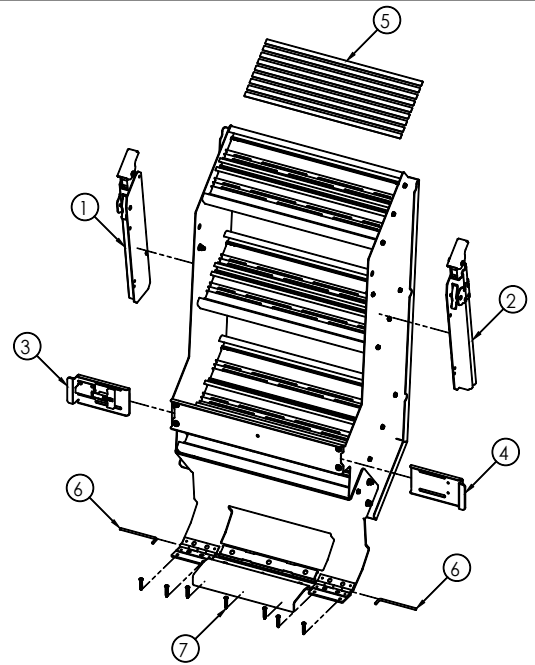
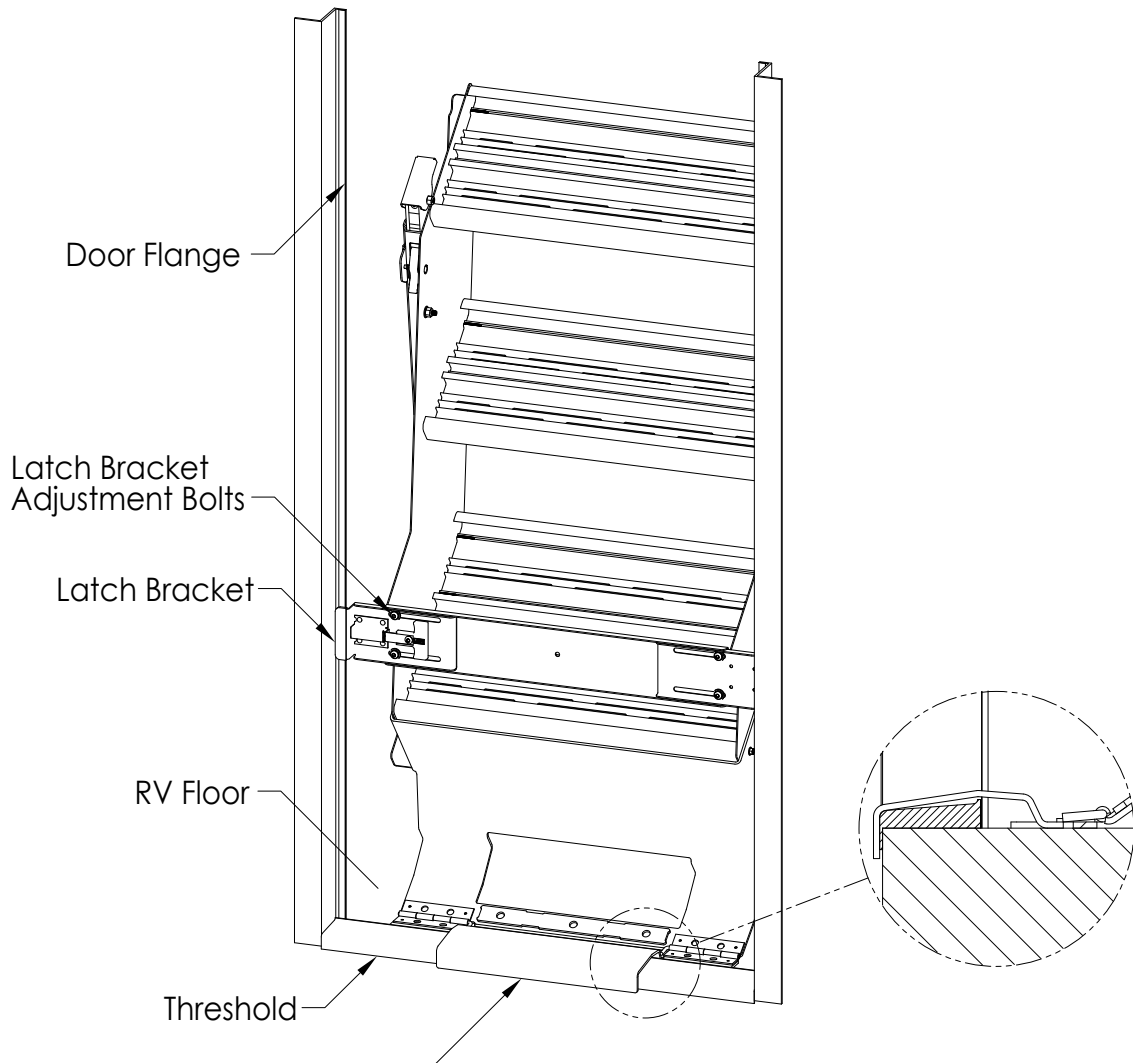

Figure 1
Figure 2
2. Open RV entry door fully and set the stair assembly in the RV threshold as shown in **Figure 1**.
5. The following steps involve installation of floor mounting screws to secure product to floor. Eight (8) #10x3/4 pan head or truss head screws must be used. Ensure screw head diameter of 5/16" or larger is used. Washers may also be used.
6. Install one (1) screw through floor mounting brackets slotted holes, centered as shown in **Figure 2**, (screw position A). Installation of screws into slotted holes first allows for fine adjustment of staircase within the door width. It is recommended to drill a pilot hole using a 1/8" drill bit for all floor screws.
7. Ensure stairs are centered within doorway before installing remaining screws in the floor mounting bracket. Once satisfied with position, install remaining screws in the floor mounting bracket as shown in **Figure 2**, (screw position B). Do not overtighten screws.
Adjust brackets by loosening bolts shown in **Figure 1**, sliding brackets in or out as needed and retightening bolts. The ideal adjustment is achieved when maximum surface area of each stop bracket bears on the door flanges and the slide latch actuates properly to prevent the staircase from unintentionally pulling free from the door flange.